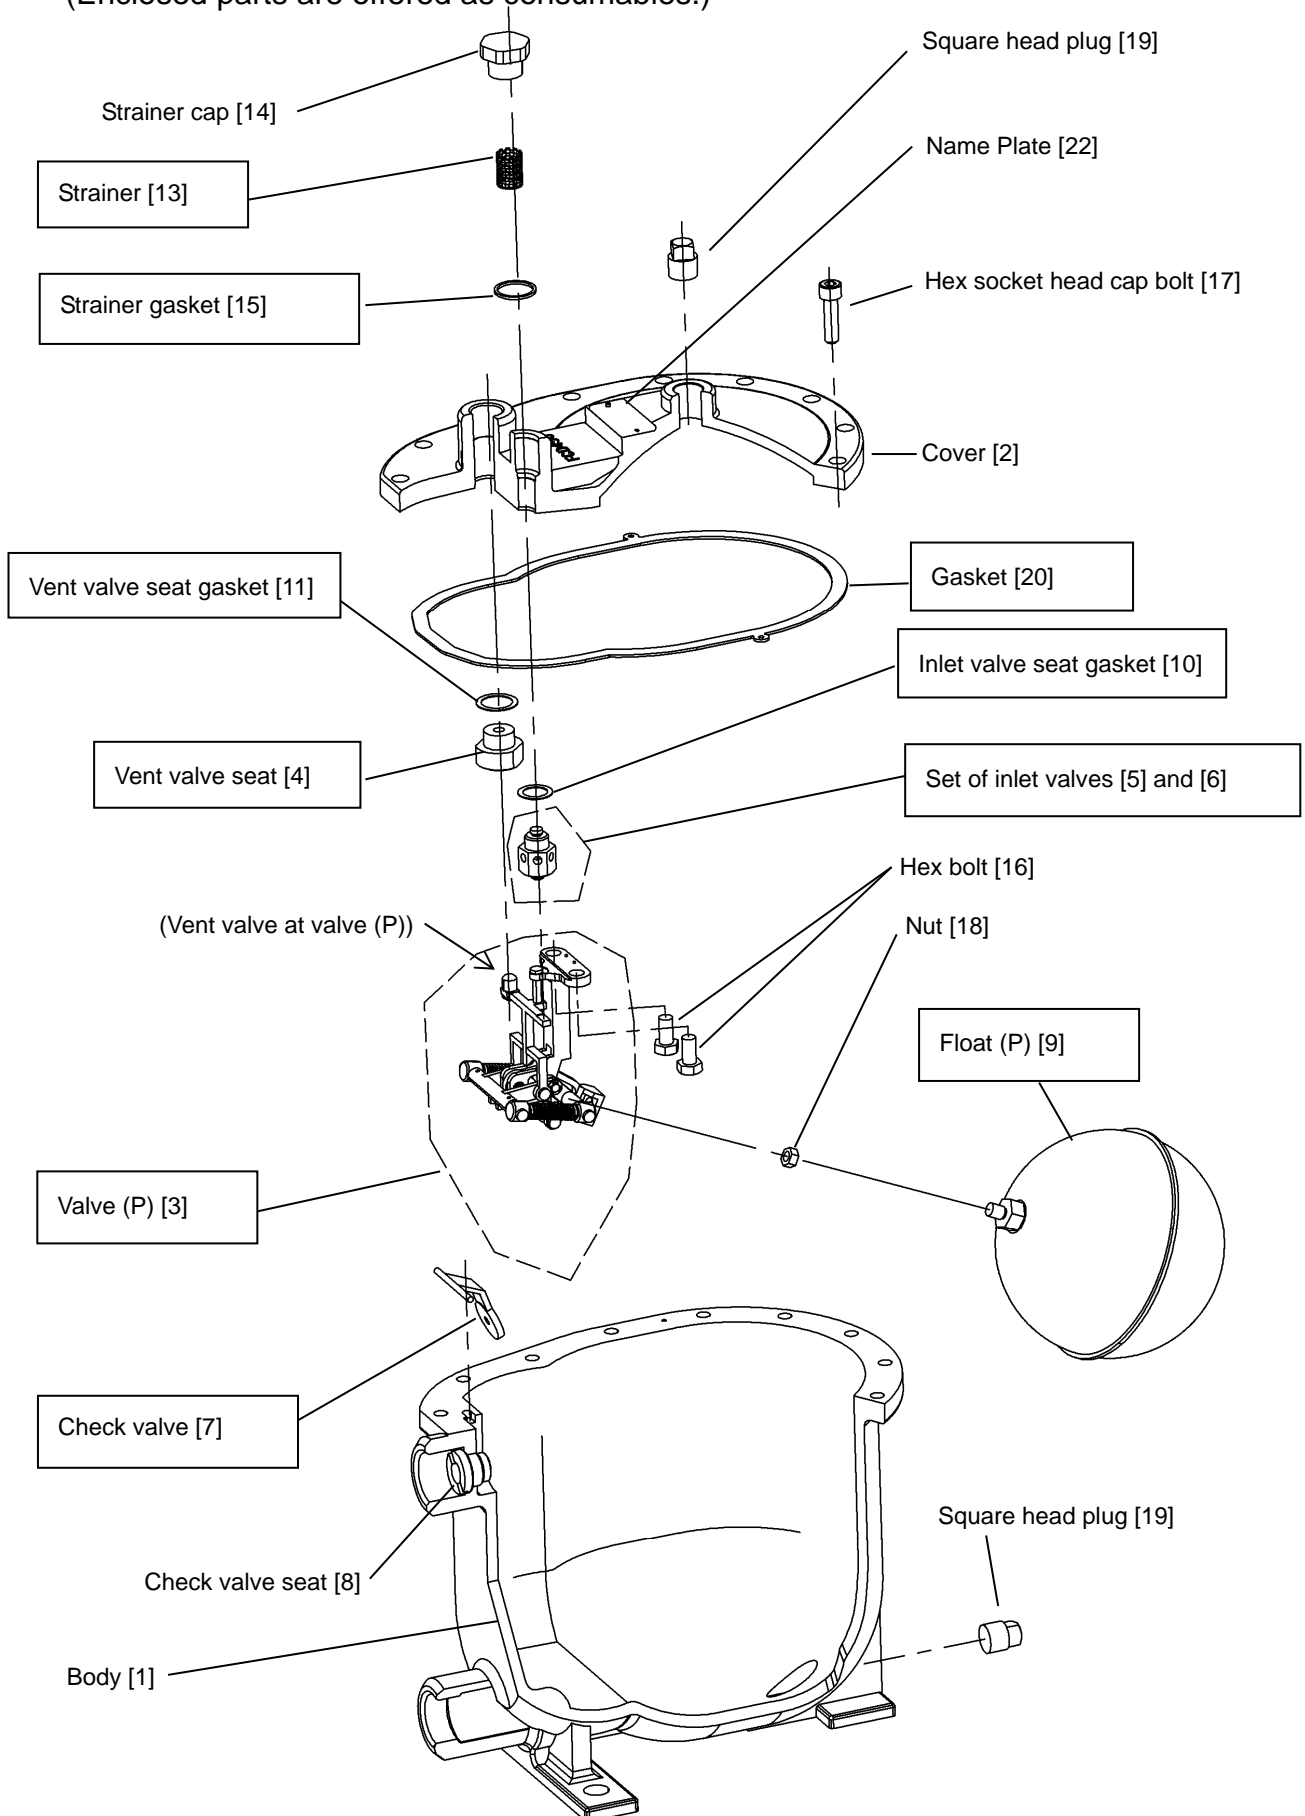

Fig. 6. Exploded view
8.4.2 Disassembly method (See Fig.6)
8.4.3 Assembly method (See Fig.6)